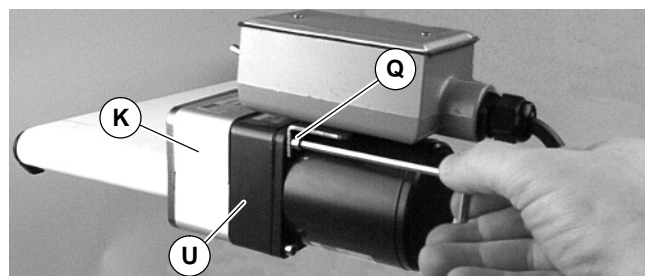

Figure 11
2. Loosen timing belt tensioner screw (T).
3. Remove four (4) screws (Q of Figure 11). Remove gearmotor (U) and top cover (K).
7. Insert top cover (K of Figure 11) into bottom cover. Mount assembly with two (2) top screws (Q). Tighten to 45 in-lb (5 Nm).